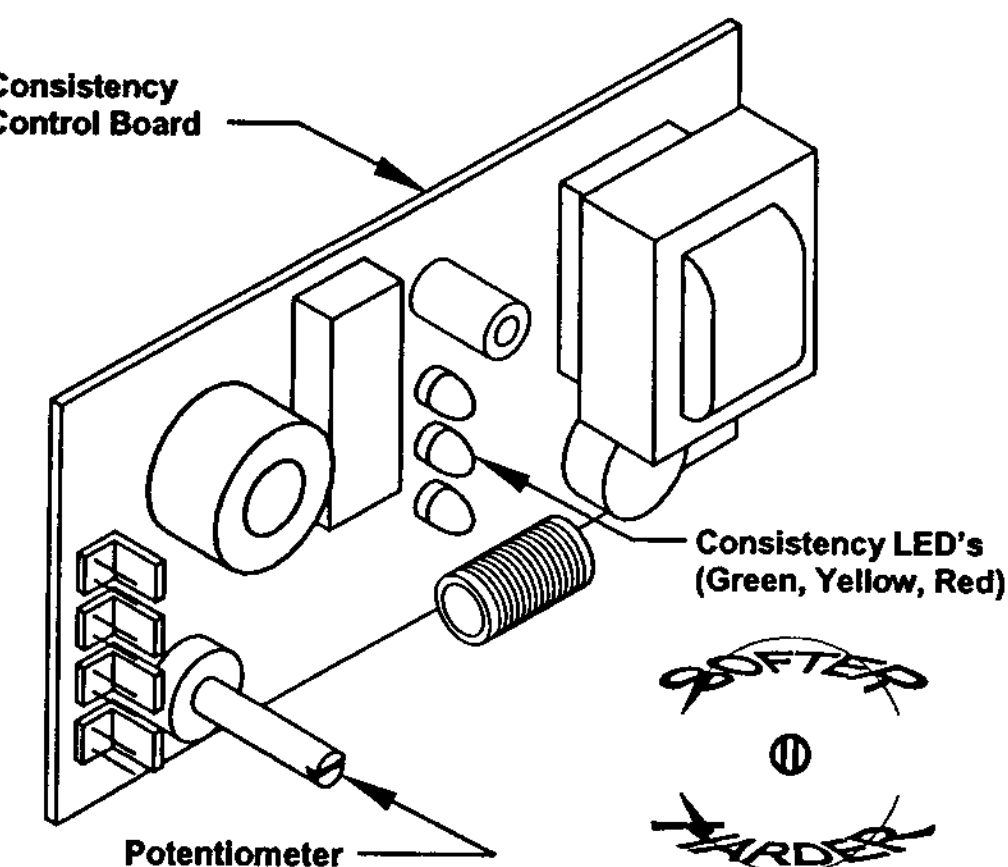

Fig. 29
2. Using a small slotted and insulated screwdriver, turn the potentiometer (Fig. 29) clockwise to make the product harder or counterclockwise to make the product softer. **Note: The potentiometer is very sensitive. Adjust in small increments.**
4. Locate the three LED's - green, yellow, and red - Fig. 29. These are used as a reference point to adjust for proper consistency. Initially, all of the LED's are off. This indicates that the mix is too thin. The compressor will now come on.